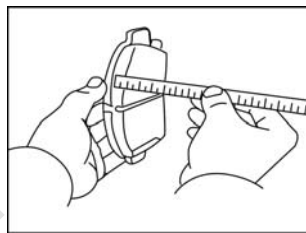

Fig. 2-56
2) Check the lining thickness of the brake pad. Measure the thickness by a ruler. See Fig. 2-56. Standard thickness: 11.0mm; min thickness: 1.0mm.